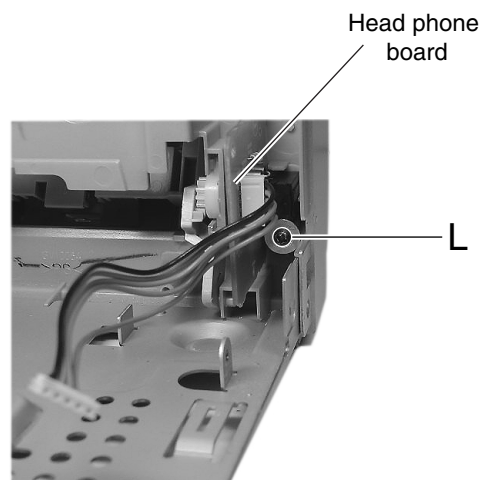

Fig. 25
■ **Removing the head phone and microphone board** (See Fig. 25)